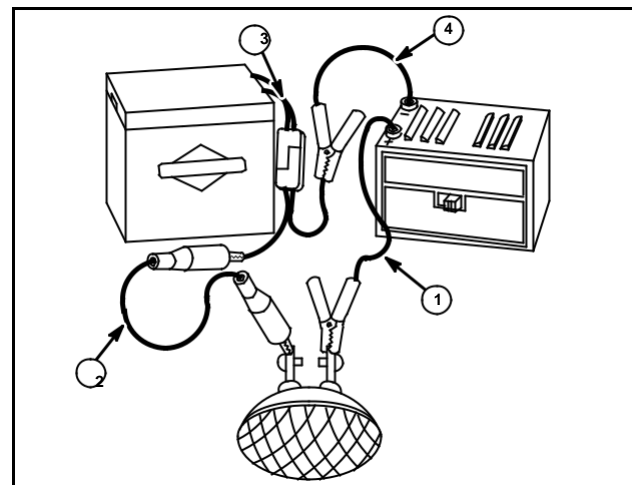

Fig. 11
1. Attach positive charger lead (1) to a #4001 sealed beam headlight terminal as shown in Fig. 11.
2. Connect alligator clips of test lead from other terminal of headlight to positive terminal of battery connector (2).
3. Attach negative charger lead to negative battery connector terminal (3).
4. Attach harness to battery connector (4). Charge battery at a rate not to exceed 1 ampere for 12 hours.